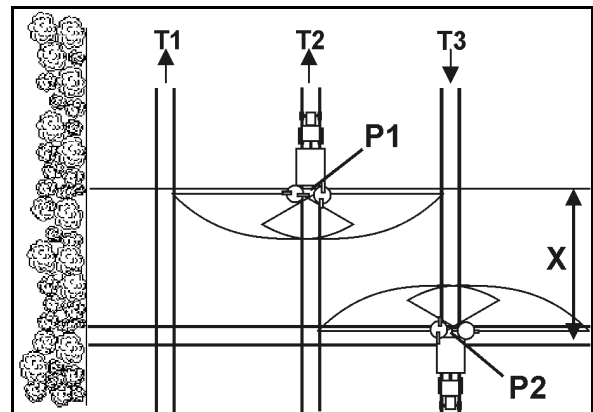

Fig. 87
- Open the slide gate after entering the tramline at point P1 (Fig. 87), when the spreader discs are at distance X from the tramline of the headland.
- Close the slide gate before leaving the tramline at point P2 (Fig. 87), when the spreader discs are located at the level of the first tramline of the headland.